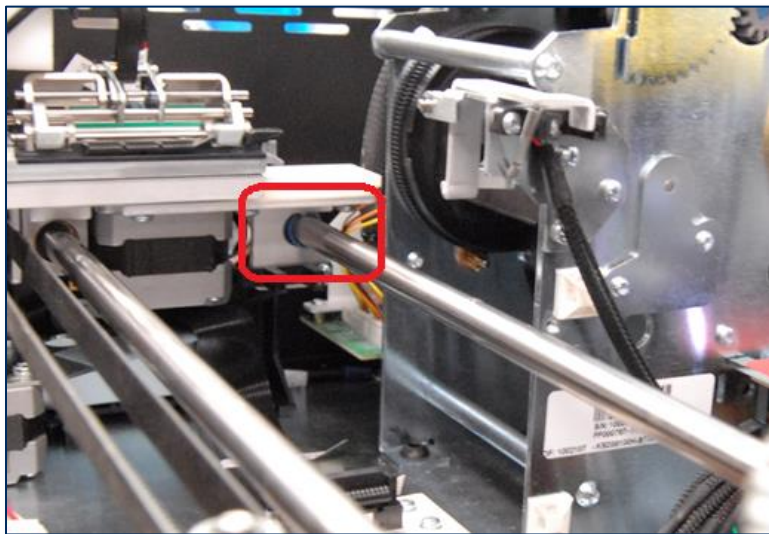

Figure 3-5 - Blue Bearing On XY Transport (FRONT LEFT VIEW)
- 4) Stand at the front of the device and locate the XY transport shaft closest to the image printer. It is the only shaft that has a blue bearing around it (see **Figure 3-5**).